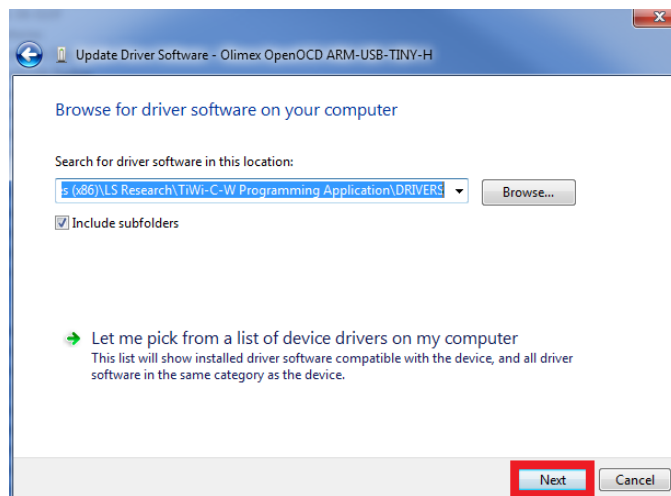

Figure 12 - Install Drivers
- Click next and the drivers should install (Figure 12).